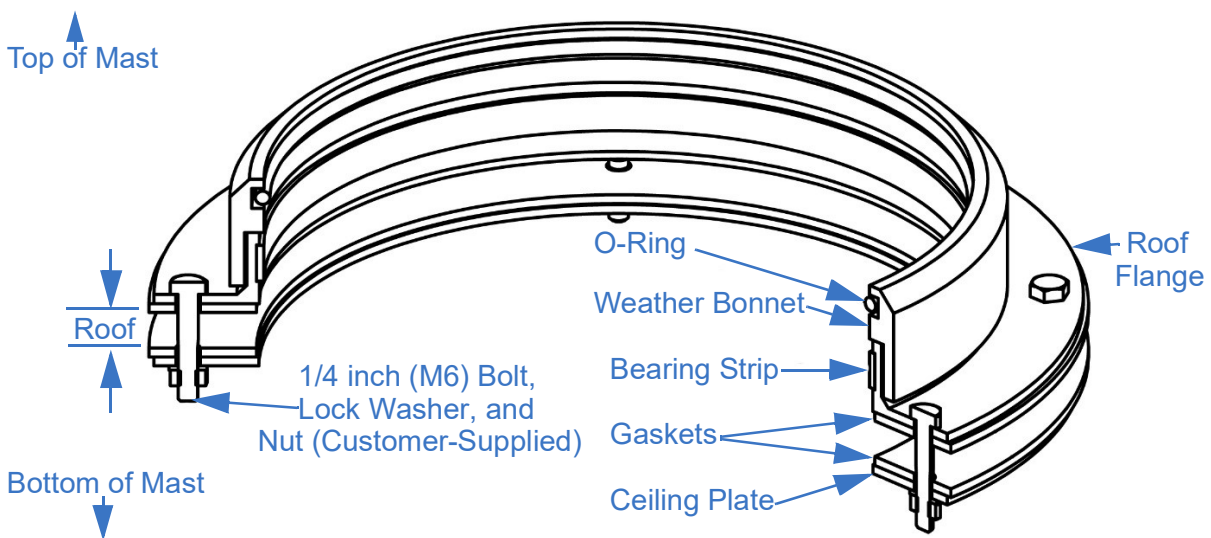
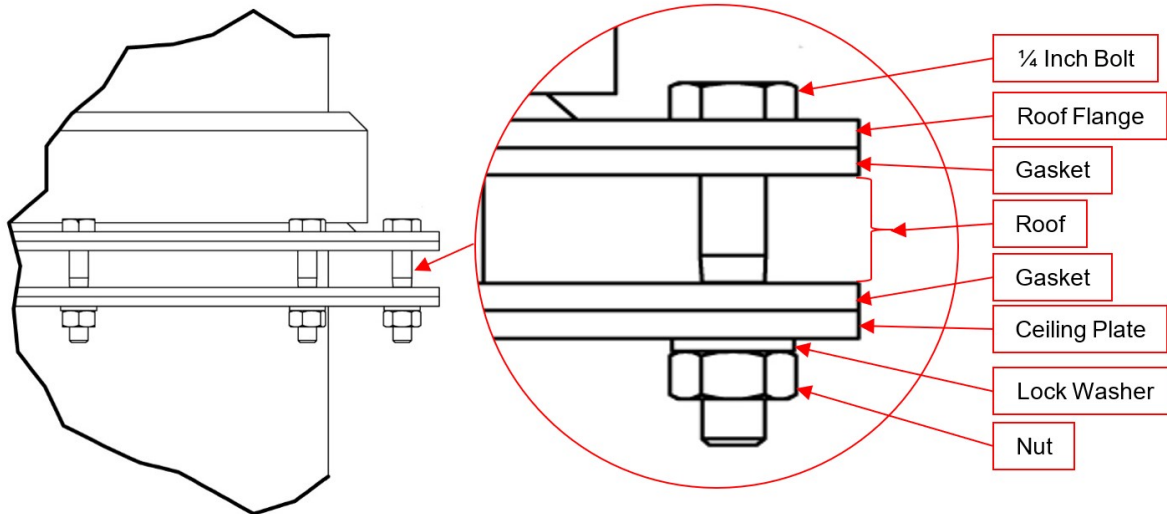

Figure 5-5 Internal Mounting Kit for Standard Duty and Heavy Duty Masts (P/N: 905733)
*Figure 5-7 Ultra Heavy Duty Internal Mounting Kit (P/N: 5476101)*
3. Center the ceiling plate from the Internal Mounting Kit (Figure 5-5, Figure 5-6, or Figure 5-7) over the hole and use it as a template to drill bolt holes for attachment.
- a. Line up the holes of the roof, the gasket with silicone sealant applied, and the roof flange (Figure 5-5). Ensure the gasket is between the roof and roof flange.
- c. Fit the other gasket (Figure 5-5) against the inside of the roof. This gasket does not need sealant. It will be held in place by the ceiling plate. Fit the ceiling plate in place and ensure all holes align.
Note that the weather bonnet and o-ring are not yet installed (Figure 5-5).
- f. Slide the weather bonnet and o-ring over the bottom of the base tube and up the mast past the drain hole towards the collar. If they are difficult to maneuver, put soapy water on the mast to allow them to slide more freely. Ensure the weather bonnet is oriented correctly, and the o-ring is in the notch in the weather bonnet (Figure 5-5).